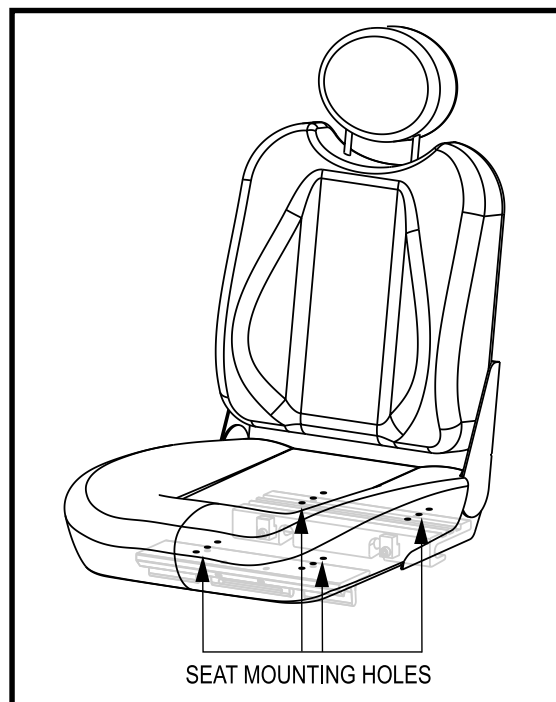

Figure 15. Seat Mounting Holes
3. Reposition the extrusions on a different set of mounting holes. See figure 15. You must move both extrusions the same number of holes either forward or backward.